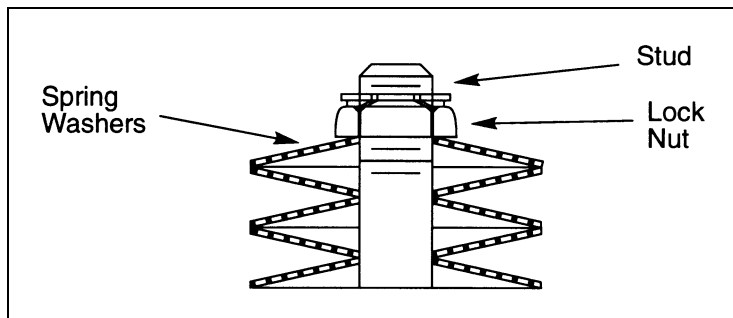

Figure 1 - Spring Washer Arrangement
4. Place the pointer, wrenching square, spring washers, and locknut on the stud on the top of the actuator. Stack the spring washers in series as shown in Figure 1.
5. Place the spring washers and locknut on the stud as shown in Figure 1, and tighten the locknut until the washers are fully compressed; then loosen the locknut until the spring washers return to their unstressed shape.